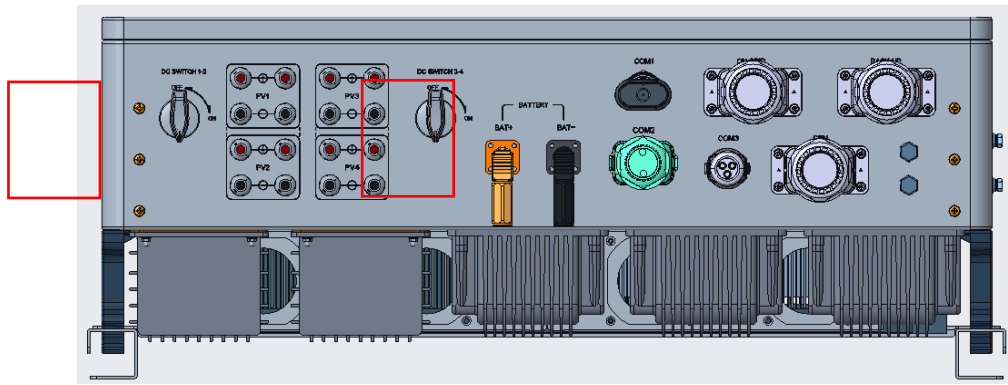

Figure 6.3 1 Inverter DC Switch
- 3) Disconnect QF12-QF9-QF8-QF7-QF11-QF5-PV switch in order (Figure 6.3 1 Inverter DC Switch)
- 2) Disconnect QF5-QF11-PV switch (Figure 6.3 1 Inverter DC Switch)-QF12-QF9-QF8-QF7 in order.